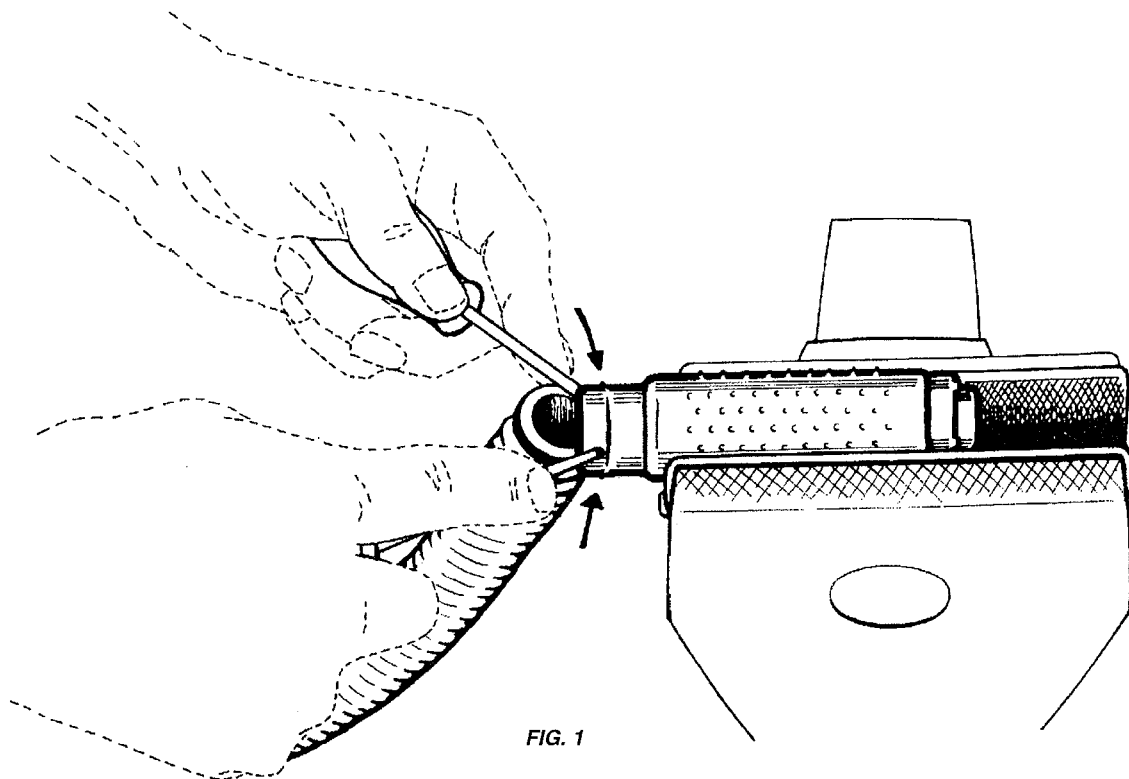

FIG. 1
1. Remove clamp (59) using the special tool (for example with cutting nippers) and extract the inflator body (46) from corrugated hose (60).
2. Lightly clamp the inflator group (46) in a vice with plastic jaws.
3. Use two small screwdrivers to depress simultaneously the two tabs on the anchoring bushing (47), then remove the anchoring bushing from the inflator body (46). (Fig. 1)